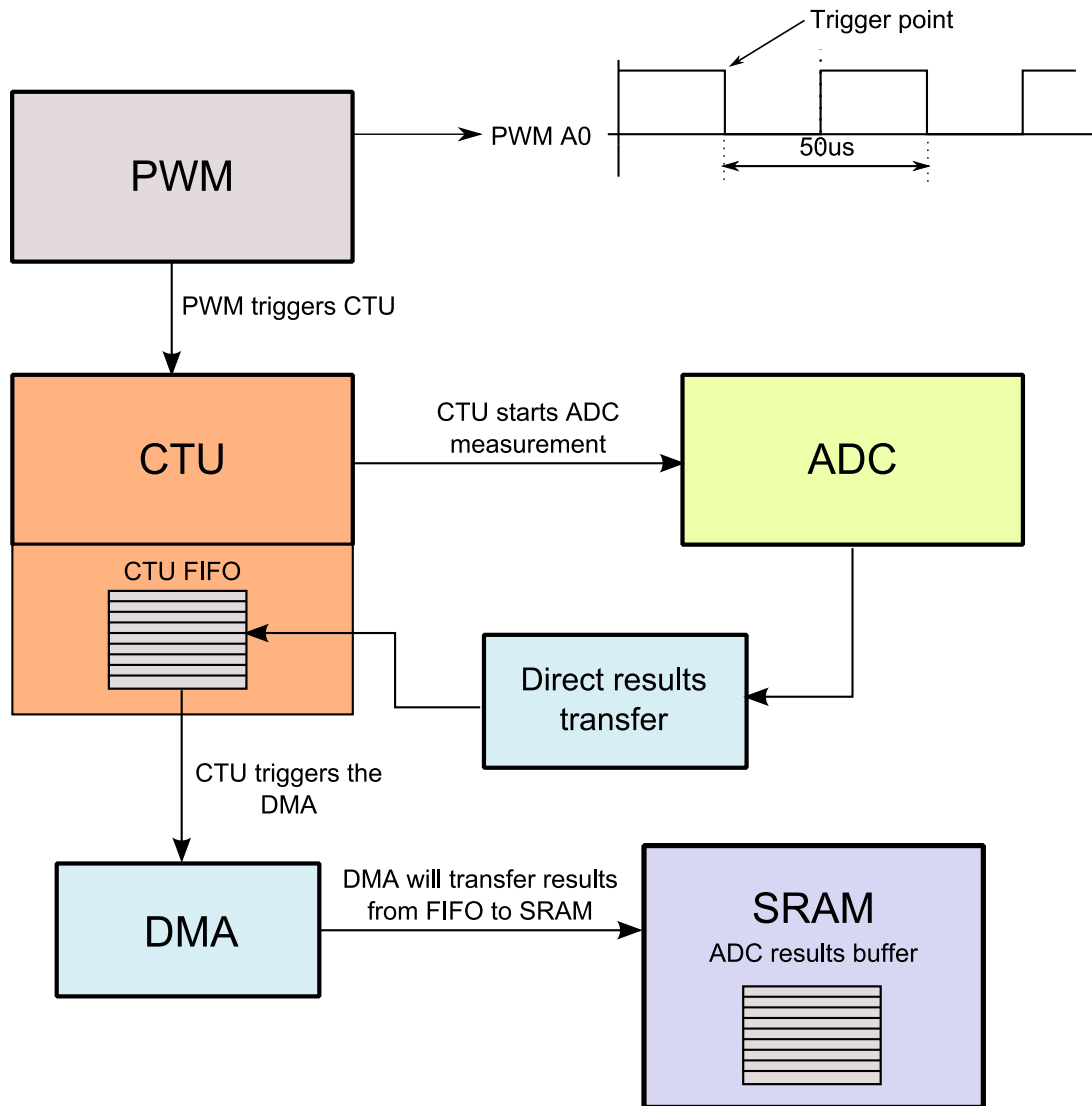

Figure 1 - PWM-ADC HW concept scheme
- One of the FlexPWM modules is used to generate PWM signal. Rising edge of PWM signal provides the trigger point for CTU module as Figure 1 - PWM-ADC HW concept scheme represents.